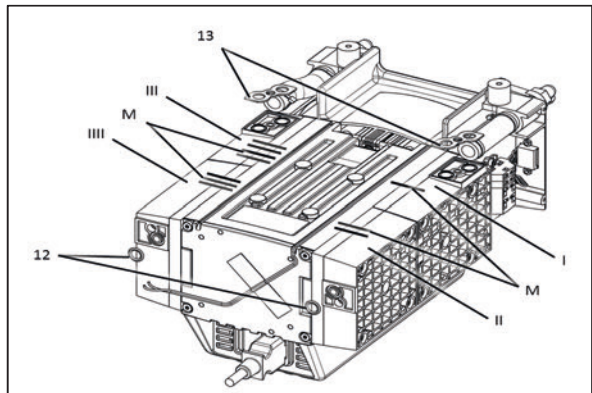
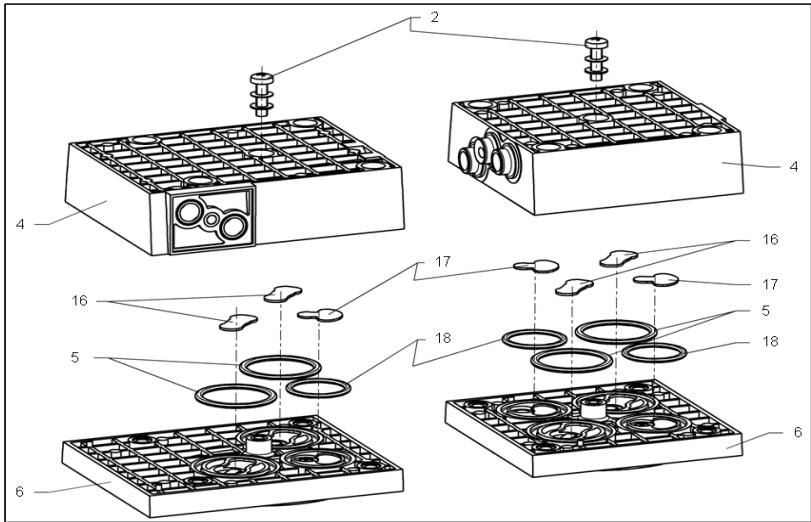

Fig. 6: Marking the pump
Fig. 8: Exploded drawing of pump heads 1 and 2
4. Remove O-rings (Fig. 6/12) and flat seals (13).
5. Head 1 (Fig. 6/I):
6. Head 2 (Fig. 6/II):
7. Head 3 (Fig. 6/III):
8. Head 4 (Fig. 6/III):
11. On all four heads, undo the head screw (Fig. 8/2) in the head plate (4) and remove head plate from the intermediate plate (6).
2. Remove from the intermediate plates (Fig. 8/6) the valve plates (16) and (17) and the O-rings (5) and (18).
4. Insert the new valve plates (Fig. 8/16) and (17) and the new O-rings (5) and (18) into the intermediate plates (6).
1. Place head plate (Fig. 8/4) onto the intermediate plates (6), observing the felt-tip pen marks (Fig. 6/M).
2. With your hands, carefully and lightly tighten the head plate's head screw (Fig. 8/2) on all four heads (tightening torque: 60 Ncm).
4. Press together heads 1 and 2 (Fig. 6/I and II) and heads 3 and 4 (III and IIII).
6. Insert O-rings (Fig. 6/12) and flat seals (13) into the head connection receiver.